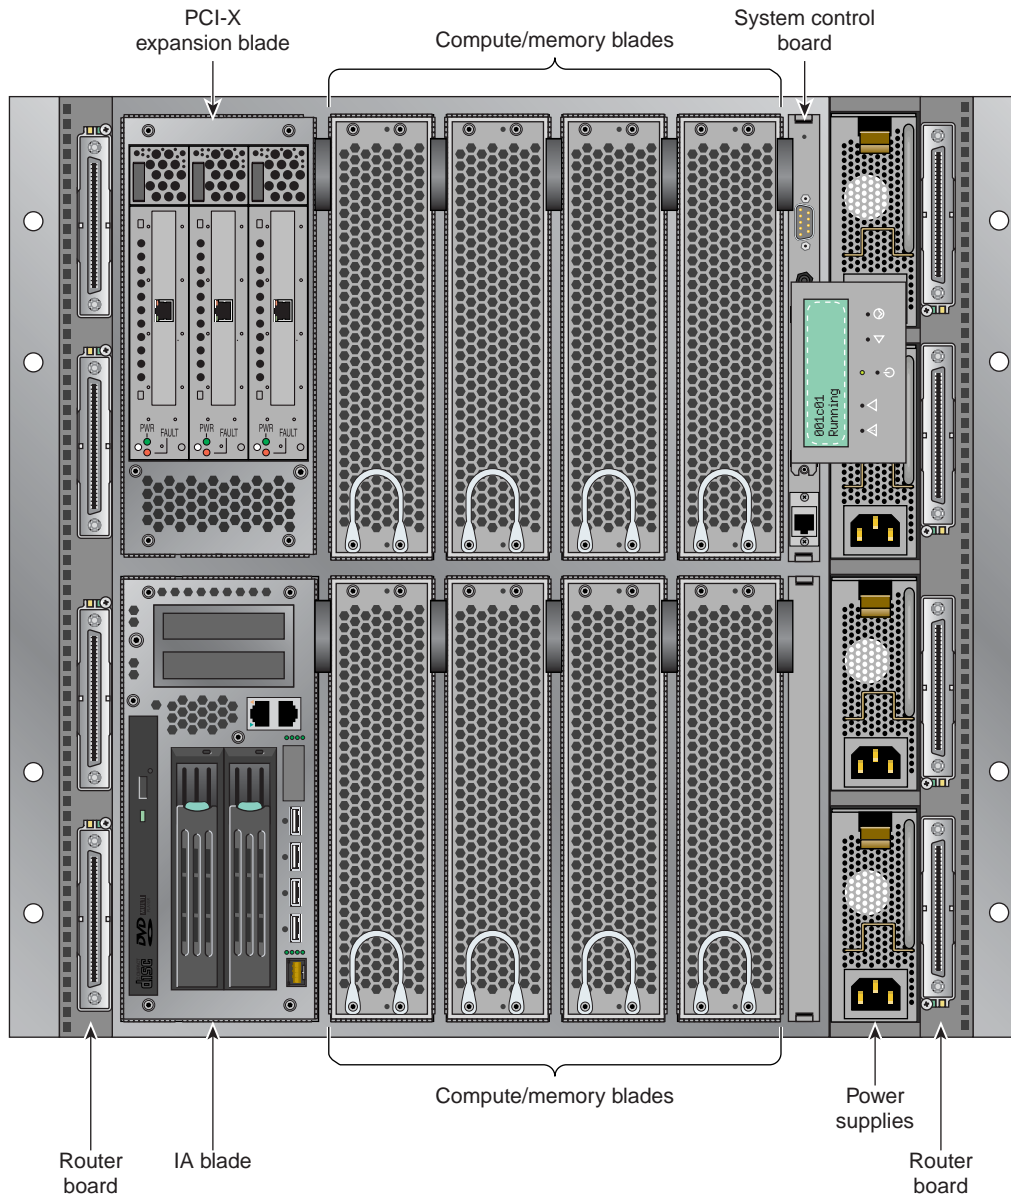

Figure 3-5 Altix 4700 IRU System Components Example
- **Individual Rack Unit (IRU).** This enclosure contains the compute/memory blades, IA2 blade (base I/O), standard routers and optional I/O blades for the Altix 4700. The enclosure is 10U high. Figure 3-5 on page 60 shows the Altix 4700 IRU system components.